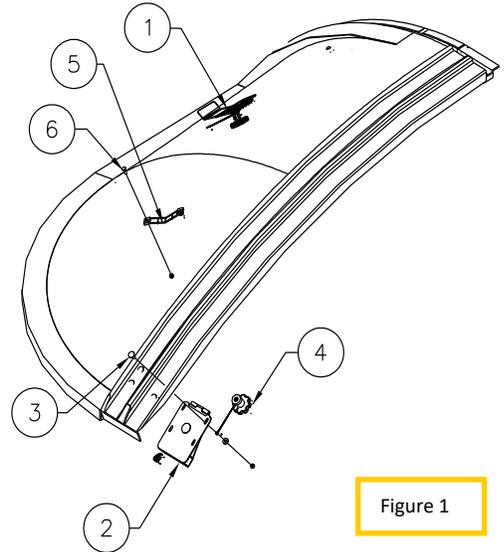

Figure 1
Attach the hood latches to the plastic hoods with 1/4" x 1" truss head bolts (3) 1/4" flat washers, 1/4" nylon washers. There are two different latches, one latch is longer with a piece of tubing welded and a 2-1/4" bolt (2) while the other is shorter with a 1" long bolt (1). The 2-1/4" latch (2) has to be bolted on the front or back of the hoods in the track. (Figure 1) With each latch a knob (4) gets bolted. Slide the cable and washer over one of the bolts and secure with a nylon lock nut. When tightening the bolts, you will need to use a Robinson screw driver on the bolt so it will not turn. Make sure the tops of the bolts are smooth with no burrs so it will not wear/cut the tarp. If there are burrs use a file and remove them.
With the front extension up drill two 13/32" holes through the outside support braces 4" down from the inside lip of the extension and centered on the brace. (see Figure 1). Fold the extension down and place the front rolltube (tarp) on the extension so the holes line up. Make sure you have the side marked Passenger (PS) on the rolltube assembly on the passenger (right) side of the combine. Then slide two 3/8" x 3-1/4" carriage head bolts the 1" x 2" tubing and the extension. Secure together with two plastic 3/8" female knobs on the inside of the hopper. Place the extension back up into place.